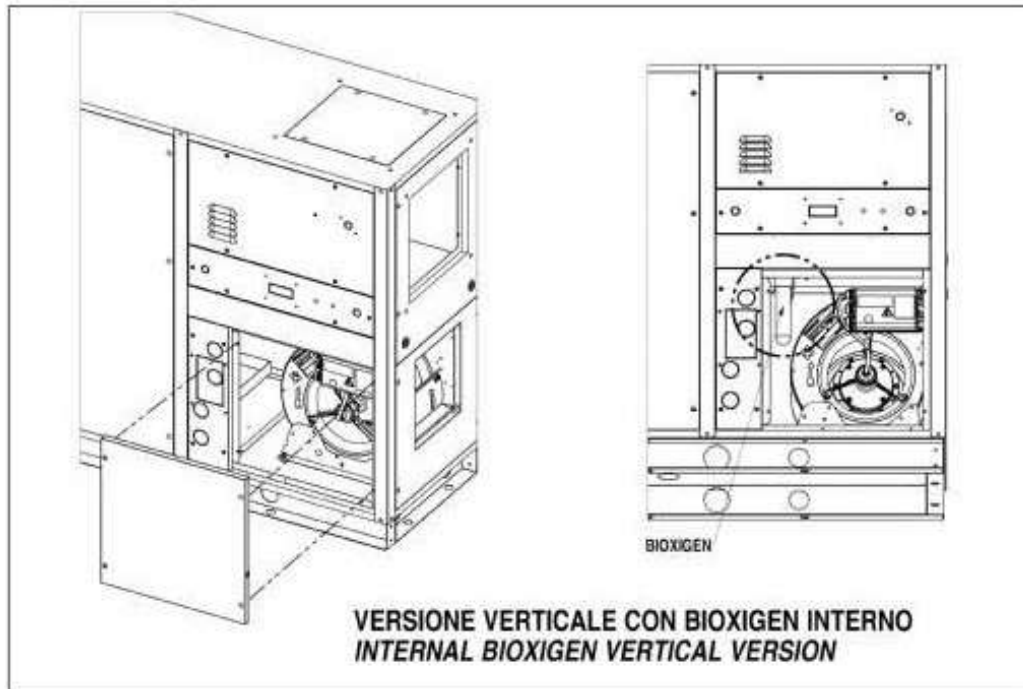

Fig.41
**VERSIONE VERTICALE (Fig. 41)**
VERTICAL VERSION (Fig. 41)